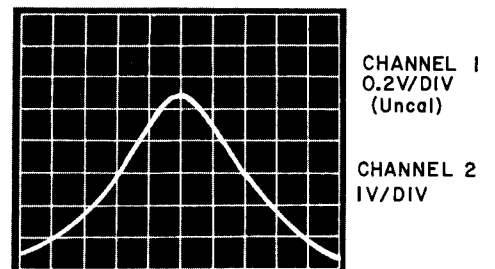

Figure 4-23. AM Detector Response
- 8) Verify that the displayed bandwidth is 5.5 MHz wide ($\pm 20\%$) at the 3 dB points. **Figure 4-23** illustrates a typical AM Detector response for bandwidths 300 kHz.